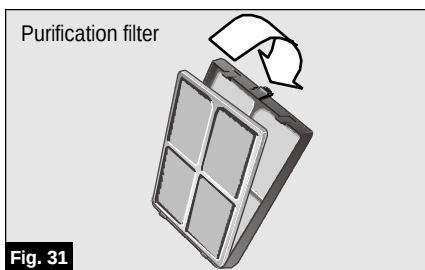

Fig. 31
- Fit the purifying filter inside the basic filter as shown in **Fig. 31**.